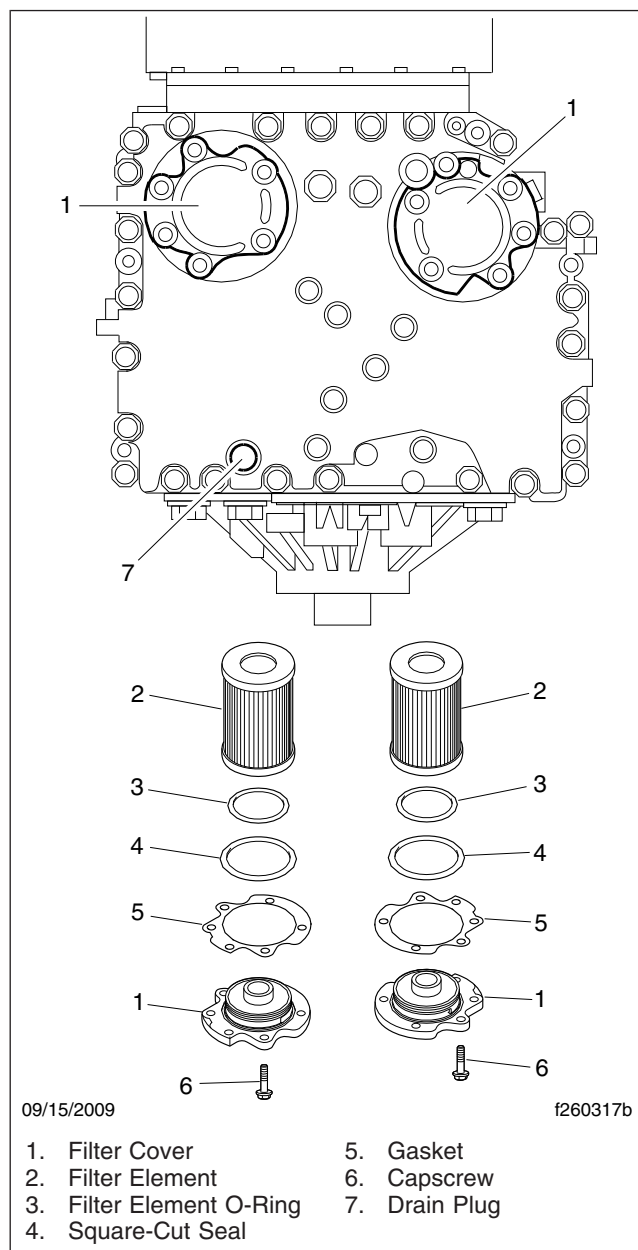

Fig. 5, Allison Transmission Filter Location and Components
5. Remove the filter covers, O-rings, and two square-cut seals from the transmission. See Fig. 5.